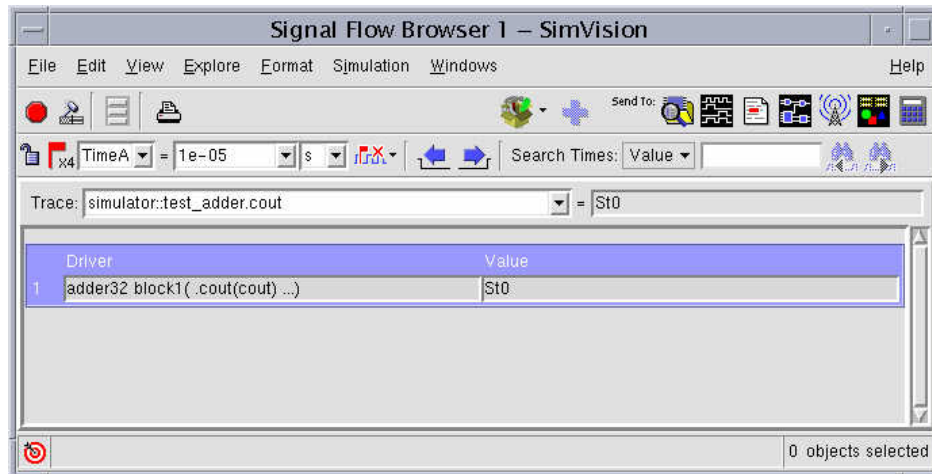

Figure 3-27 Displaying drivers in the Signal Flow Browser.
1. In the **Waveform** window, select the variable or signal, cout, and choose **Explore→Go To→Cause**. The **Signal Flow Browser** shows the signal user selected and the list of the signal's drivers, as shown in figure 3-27.